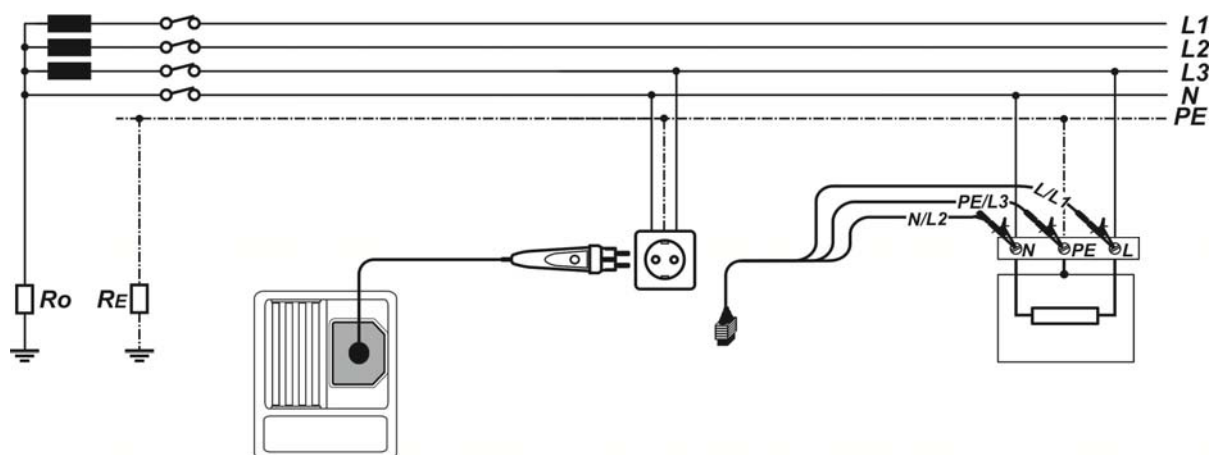

Figure 5.48: Connection of plug test cable and 3-wire test lead
- ❑ **Connect** test leads to the item to be tested (see *Figure 5.48*).